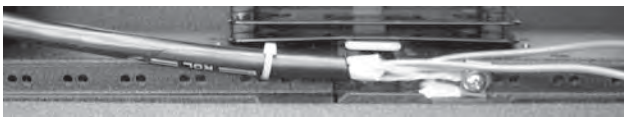

Figure 12
8.6 When the application does not allow for outside strain-relief, the cable may also be strain-relieved inside the unit as shown in Figure 12.